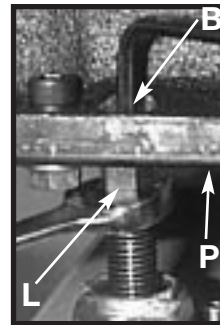
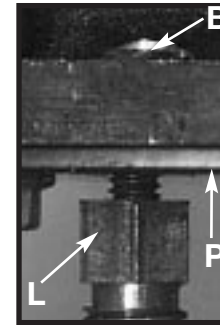
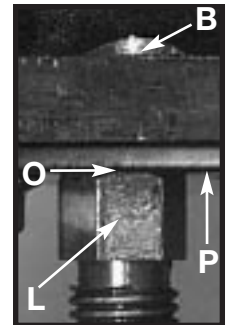

Fig. 6A
Fig. 6B
Fig. 6C
4. With a ½" wrench hold the hex top of the front, right leveling screw (L) Fig. 6A. Then using a 3/16" hex wrench loosen screw (B) four full turns. Turn leveling screw clockwise Fig. 6B until it no longer touches the support plate (P) as shown. Then turn it counterclockwise until it just touches the support plate (P) Fig. 6C without raising the plate as shown at (O). Hold the hex top of the leveling screw (L) Fig. 6A and tighten hex screw (B).